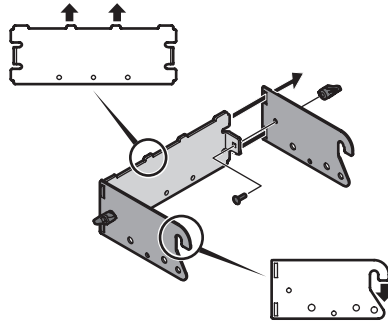

Figure 1
1. Attach the two hitch side brackets to the universal support bracket (783-08129) using two carriage bolts (710-0276) and wing knobs (720-04122) from hardware pack 689-02364. See Figure 1.
**NOTE:** The hooks on the side brackets should point downwards and the tabs on the rear plate point upwards as shown in Figure 1.